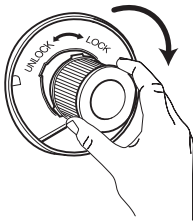

Fig. 25
12. Lock the central laminar filter onto the dust container cover again by turning it clockwise (Fig. 25). Make sure it is fitted correctly as otherwise the filter screen will not lock into place.